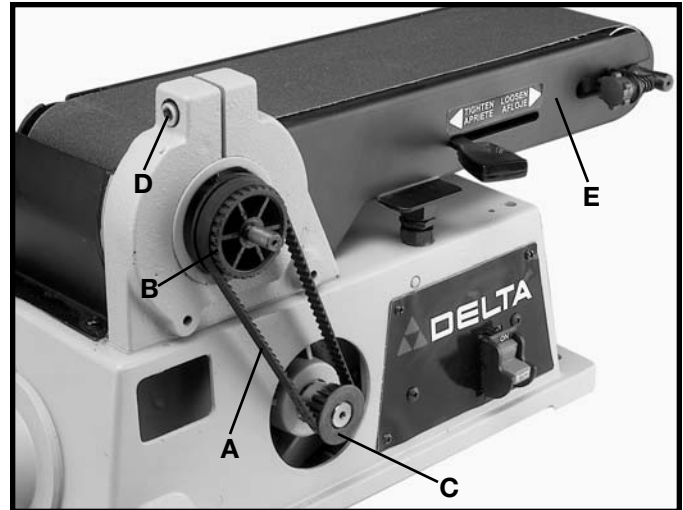
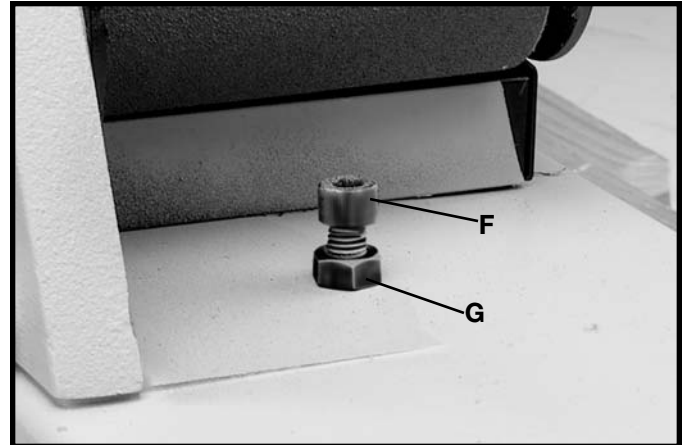

Fig. 2
Fig. 3
Your sander was shipped from the factory with the drive belt (A) Fig. 2, assembled to both pulleys (B) and (C). Before assembling the disc unit to the machine, check and adjust the belt tension as follows:
1. Loosen screw (D) Fig. 2, and move sanding arm (E) to the vertical position to expose belt tensioning screw (F) Fig. 3, and locknut (G).